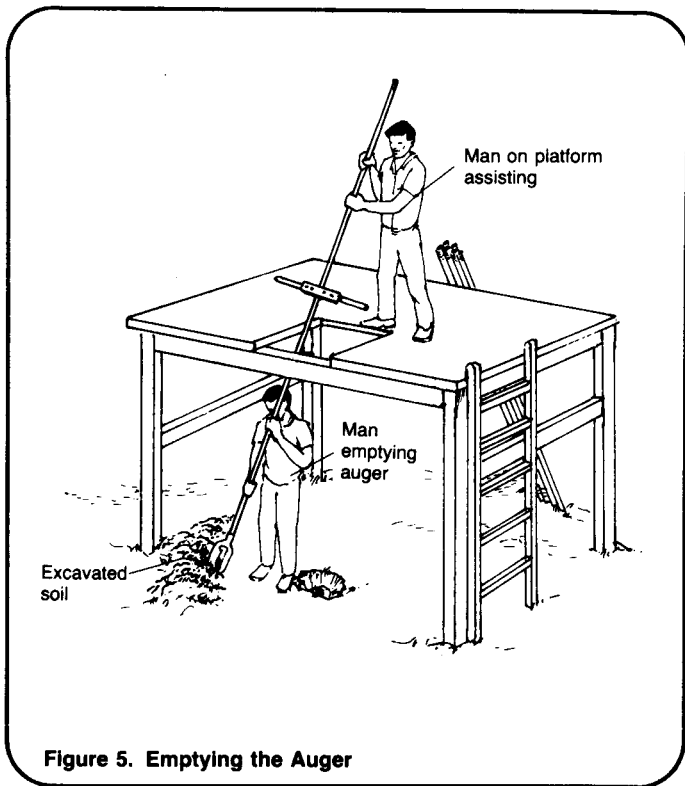

Figure 5. Emptying the Auger
4. Attach the auger to the first section of drill pipe and set it in the starter hole. Attach the adjustable handle at about shoulder height. See Figure 4. Use a plumb bob and line to be certain that the drill pipe is vertical. Rotate the auger two or three turns or until it is full of soil, then lift it out of the hole and empty the soil. Use the excavated soil to build a mound around the shaft to drain away surface water as shown in Figure 5.